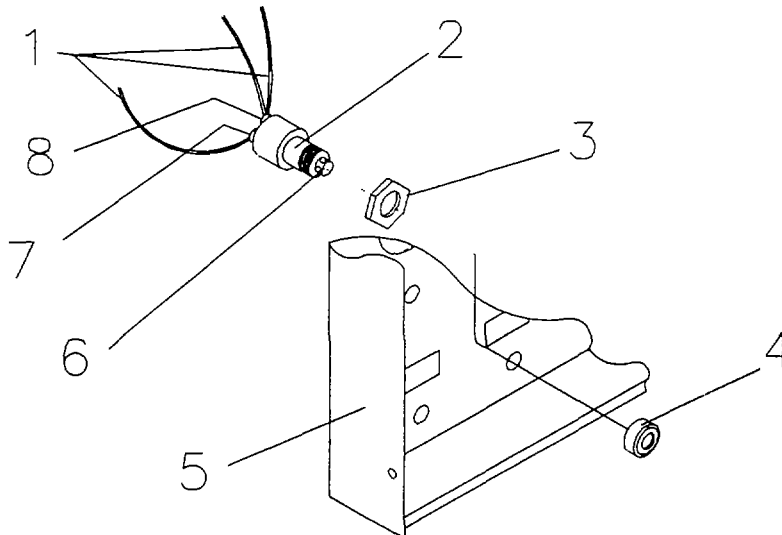

Figure 4-5. Oil Pressure Override Switch.
a. Testing. Refer to figure 4-5.
- 1) Using continuity tester (part of item 6, Section III, Appendix B), check for continuity between terminals (7) and (8) when pushbutton (6) is depressed. If there is no continuity when pushbutton is depressed, oil pressure override switch (2) is defective and must be replaced.
b. Removal. Refer to figure 4-5.
- 1) Tag and remove the wires (1) connected to oil pressure override switch (2).
- 2) Loosen locknut (3), remove retainer nut (4) and withdraw oil pressure override switch (2) from rear of panel (5).
c. Installation. Refer to figure 4-5.
- 1) Insert oil pressure override switch (2) through rear of panel (5), install retainer nut (4) and tighten locknut (3).
- 2) Install wires (1) to switch (2).